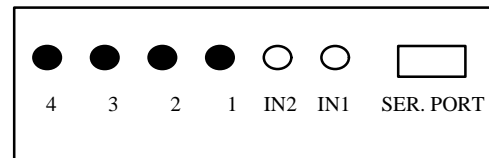

Figure 3
2. Jacks **R1 through R4** provide switch closures at different points in the turntable's cycle (Figure 3):